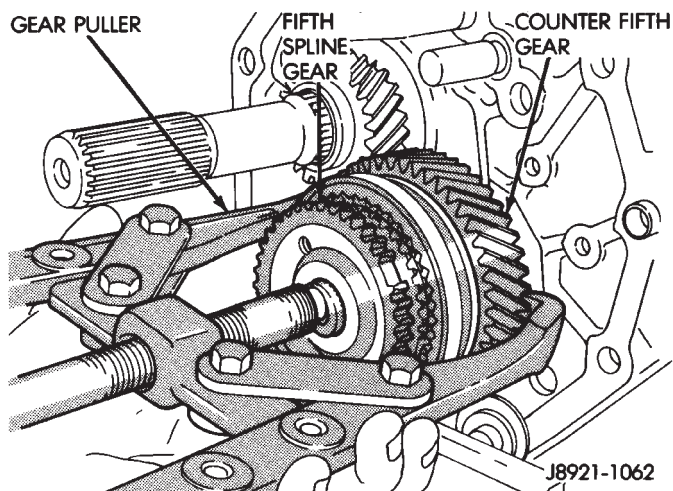

Fig. 32 Loosening Fifth Spline Gear
(13) Loosen fifth spline gear with standard two-jaw puller (Fig. 32). **Position puller jaws behind fifth counter gear as shown.**